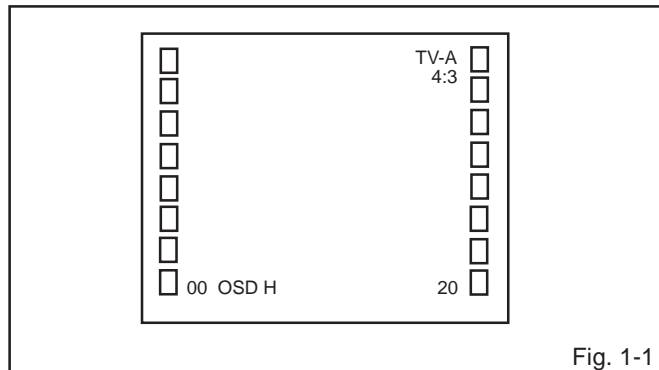

Fig. 1-1
Press the VOL. DOWN button on the set and the Channel button **(9)** on the remote control for more than 2 seconds to appear the adjustment mode on the screen as shown in **Fig. 1-1**.
4. Activate the adjustment mode display of **Fig. 1-1** and press the channel button **(02)** on the remote control to select "CUT OFF".
4. Activate the adjustment mode display of **Fig. 1-1** and press the channel button **(11)** on the remote control to select "R.BIAS".
4. Activate the adjustment mode display of **Fig. 1-1** and press the channel button **(29)** on the remote control to select "BRI. CENT".
3. Activate the adjustment mode display of **Fig. 1-1** and press the channel button **(33)** on the remote control to select "CONT. MAX".
4. Activate the adjustment mode display of **Fig. 1-1** and press the channel button **(38)** on the remote control to select "TINT".
4. Activate the adjustment mode display of **Fig. 1-1** and press the channel button **(35)** on the remote control to select "COL. CENT".